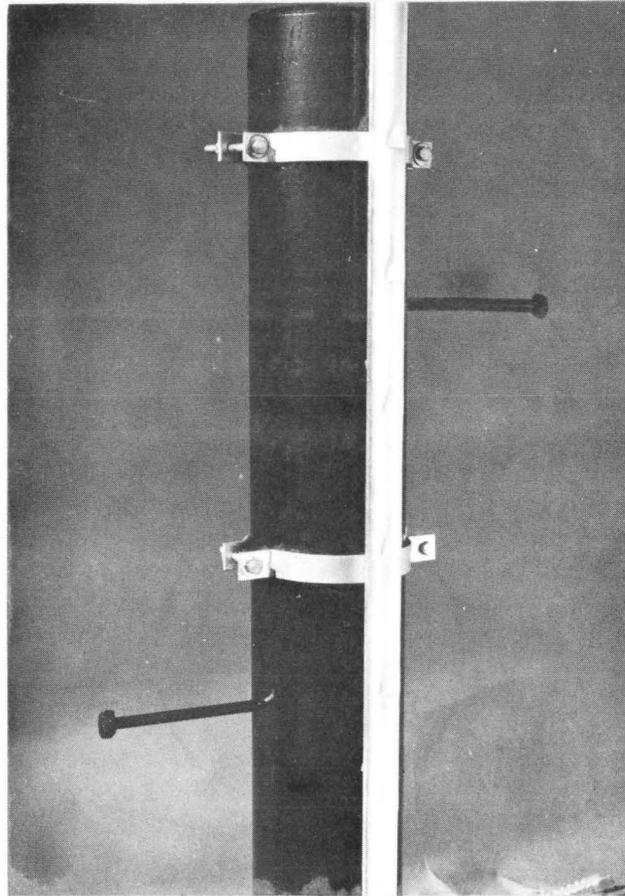

Fig. 13
3.15 The D rail attachment is used to fasten the carrier rail to a steel pole. (See Fig. 13.) The front half of the band is bolted to the rail, and then the two halves are drawn together with the long cap screws.